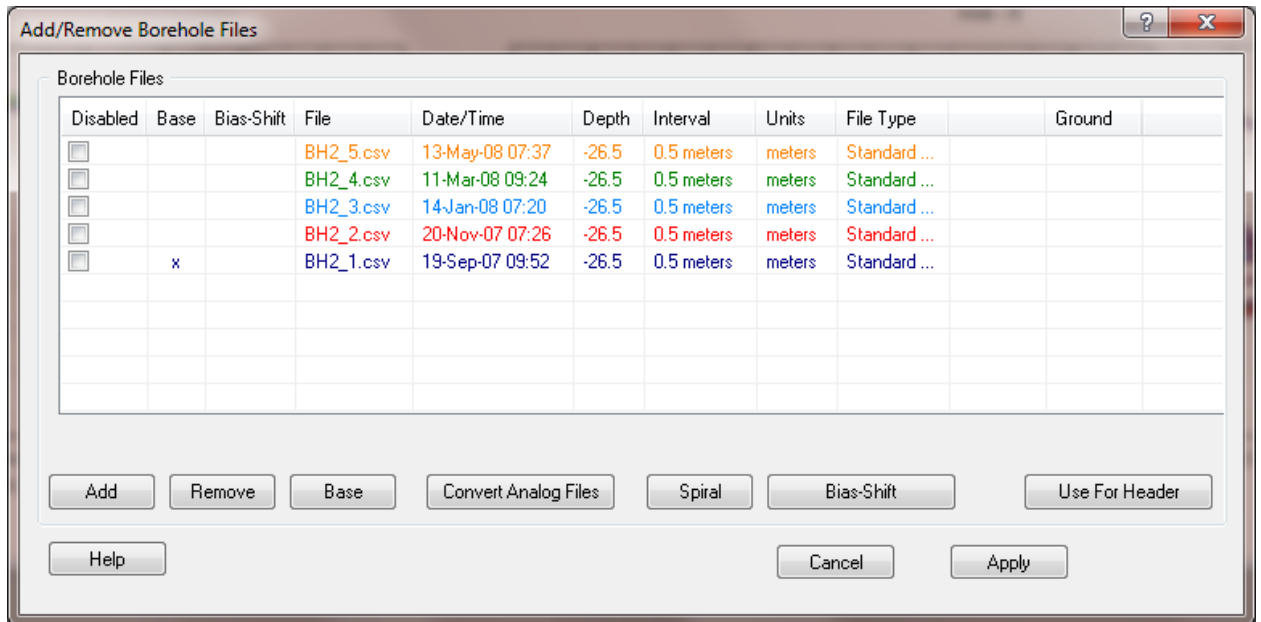
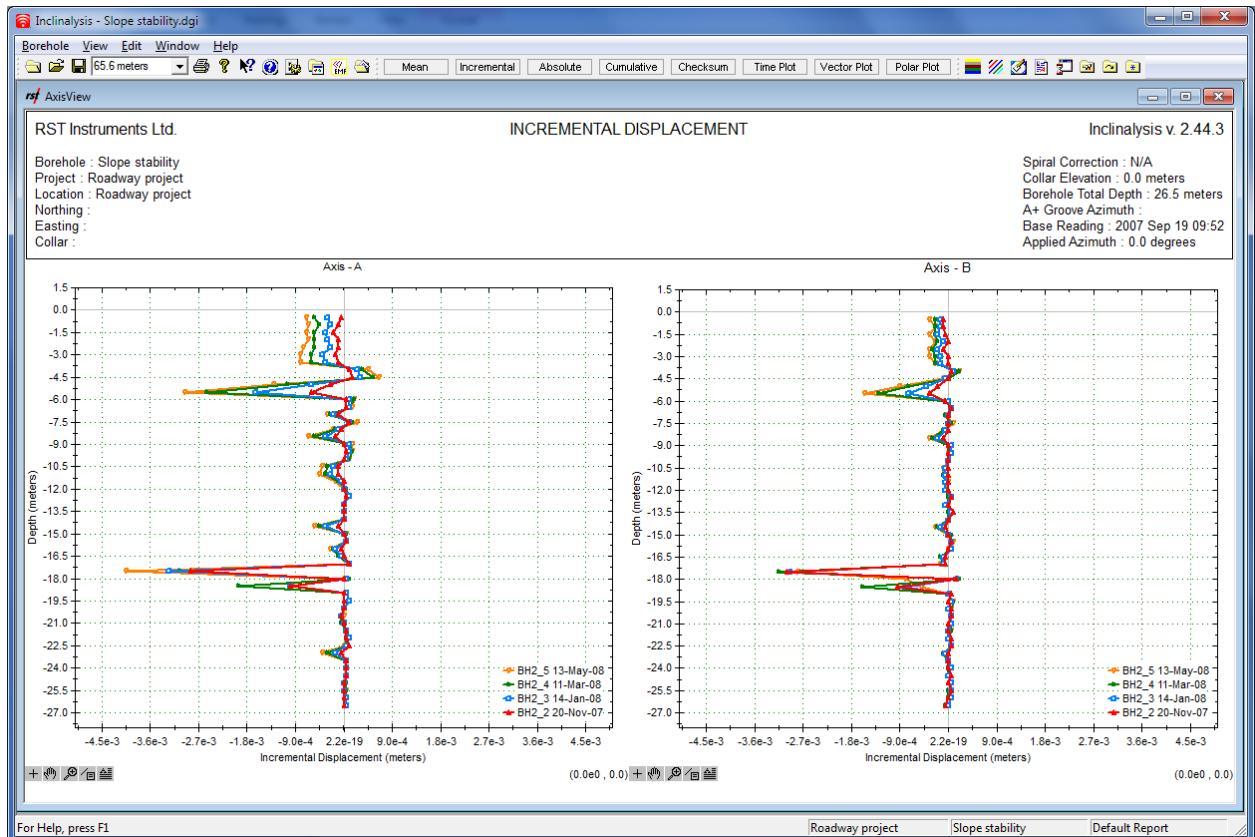

FIGURE 6-9 ADDING FILES
FIGURE 7-1 AXIS VIEW
Add/Remove Borehole Files: Opens a dialog in which the user can specify which survey files are to be displayed with the program (Figure 6-9). The user can specify which file is displayed and the base file, along with header information.
- 7 Upon selection of a borehole, the program will automatically open the **Add Files to Borehole** dialog box (Figure 6-9).
Once a borehole is selected and the specific survey files are opened (Section 6.1), various plots can be created. By pressing **Apply** (Figure 6-9), the program will automatically create a graph view of the data (Figure 7-1).